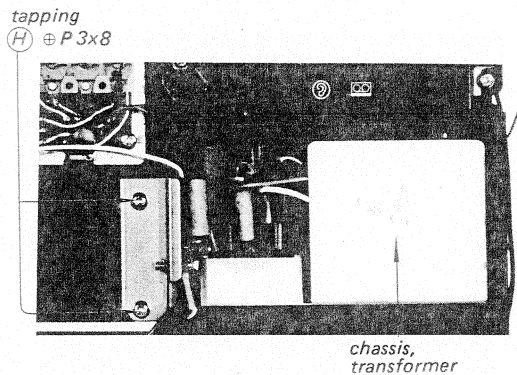

Fig. 2-9. Power supply circuit board removal
4. Remove the two screws marked ⑦ in Fig. 2-9.